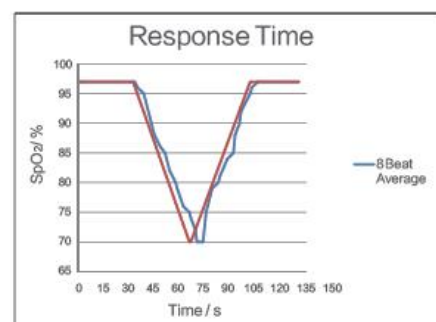

Figure 4
10. Device response time. (See Figure 4)